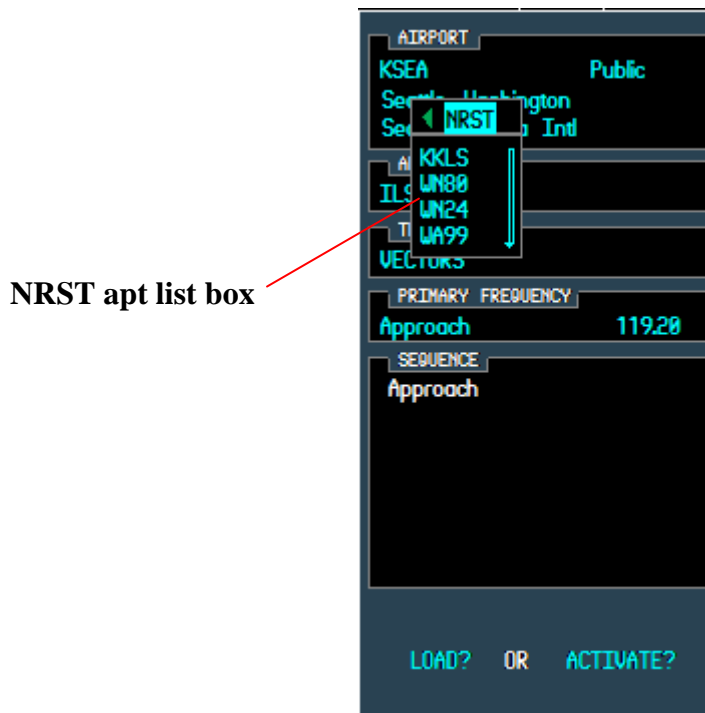

Figure 8.11
4.1 click on the right small FMS knob to close the fpl wpt window and open a popup box listing the nearest 25 airports (Figure 8.11).